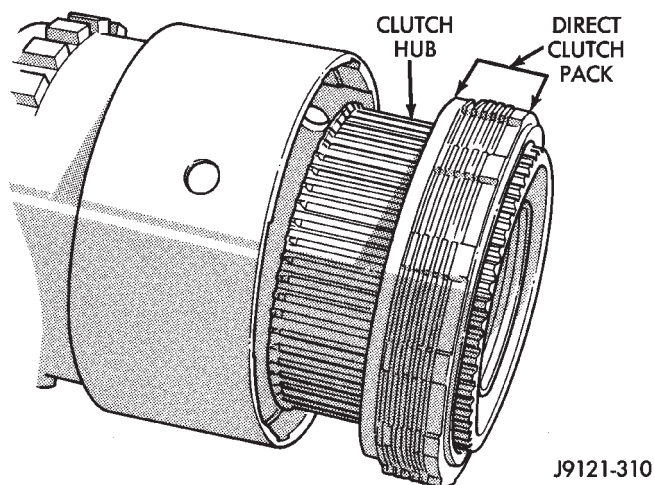

Fig. 24 Direct Clutch Pack Removal
(13) Release press load on clutch spring **slowly and completely**. Remove press tools and geartrain.
(14) Remove direct clutch pack from hub (Fig. 24).